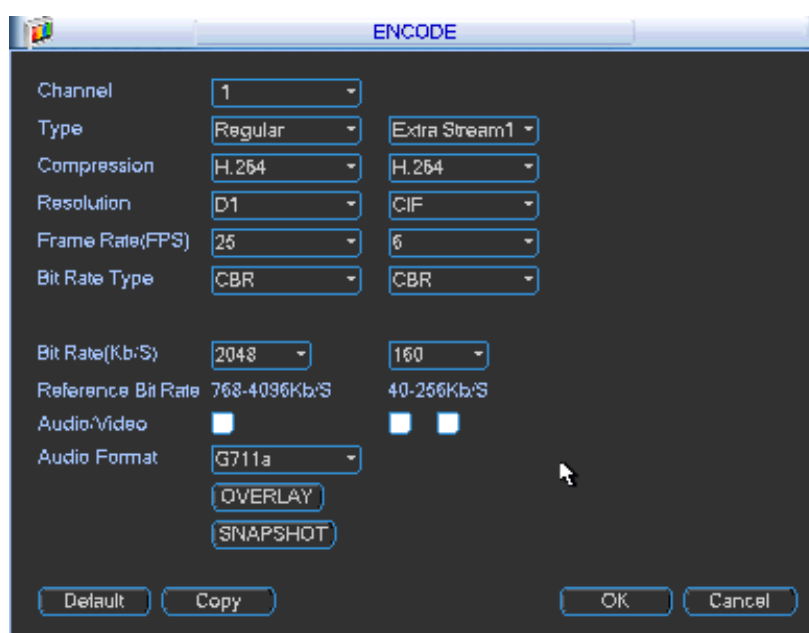
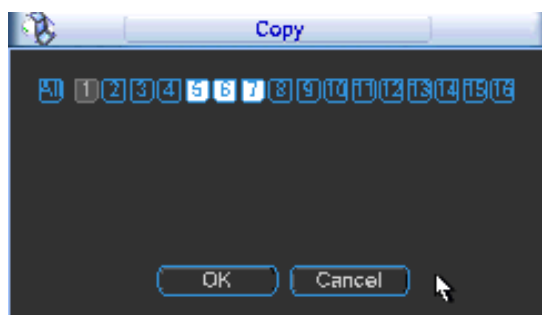
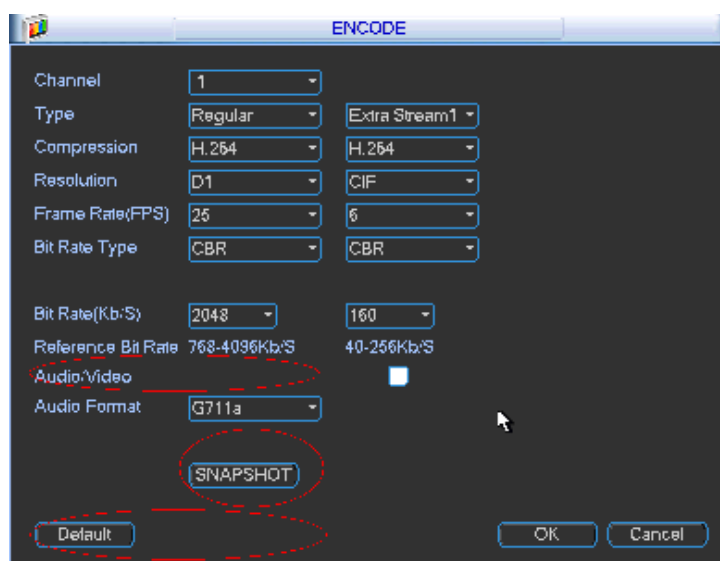

Figure 5-8
Figure 5-10
Figure 5-11
Encode setting includes the following items. See Figure 5-8.
- ◆ Copy: After you complete the setup, you can click Copy button to copy current setup to other channel(s). You can see an interface is shown as in Figure 5-10. You can see current channel number is grey. Please check the number to select the channel or you can check the box ALL. Please click the OK button in Figure 5-10 and Figure 5-8 respectively to complete the setup. Please note, once you check the All box, you set same encode setup for all channels. Audio/video enable box, overlay button and the copy button is shield. See Figure 5-11.